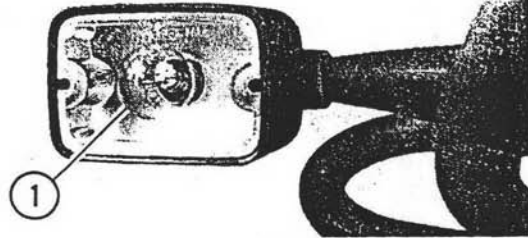

Figure 5-18. Turn Signal Bulb
2. See Figure 5-18. Push in gently on bulb (1) and then turn it counterclockwise to remove.